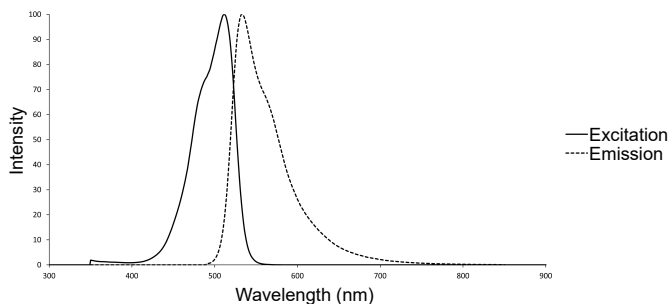

Figure 2 CellEvent™ Caspase-3/7 Green Detection Reagent: Fluorescence excitation and emission spectra after caspase-3/7 activation
- CellEvent™ Caspase-3/7 Green Detection Reagent absorbs and emits optimally at 502 nm and 530 nm, respectively (see Figure 2). Fluorescence can be visualized with a standard FITC or GFP filter.